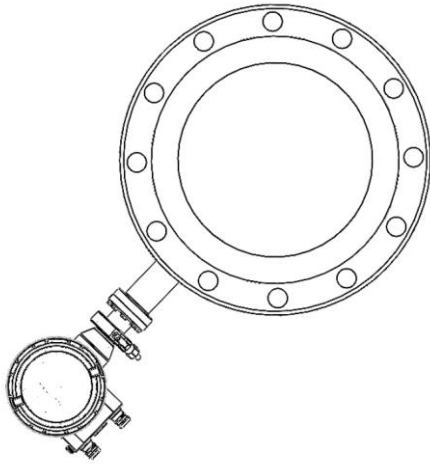

Figure 3-1: Pipe Integration System with 1 port: 1 Ultrasonic (US) sensor at a 45° angle downwards
2. For the correct Pipe Integration System installation in a horizontal pipe, see below figures 3-1 until 3-5 for the correct orientation.